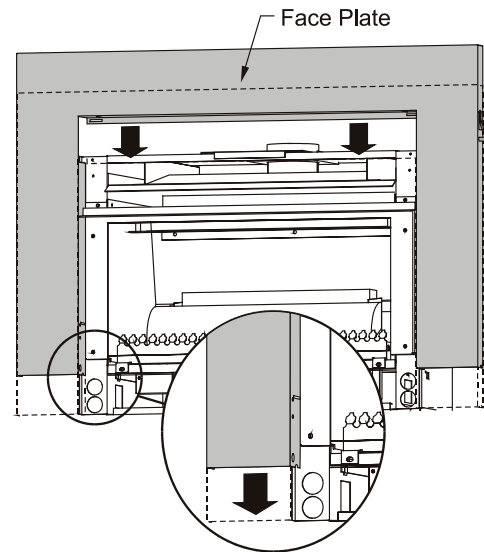

Figure 6a. Installing the Hotshot's one-piece face plate.
- Slide the face plate down from the top of the fireplace. Ensure that the face plate is inside of fireplace side rail as shown in figure 6a.